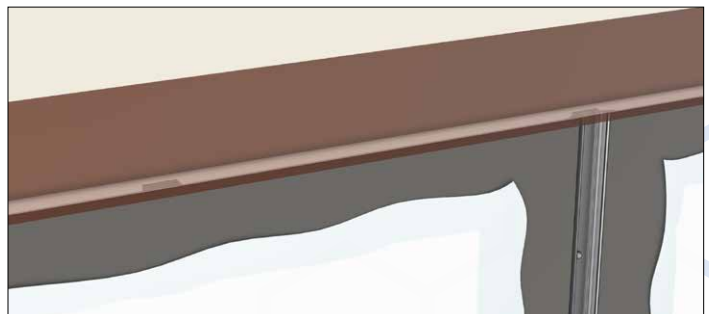

Figure 21.4
21. Place the QP 07 Horizontal Flashing so that it covers the top edge of panels, QP 05 Vertical Main Wall Top Cap, and the QP 06 (PVC) Rainscreen Furring Spacers. (Figure 21.4)